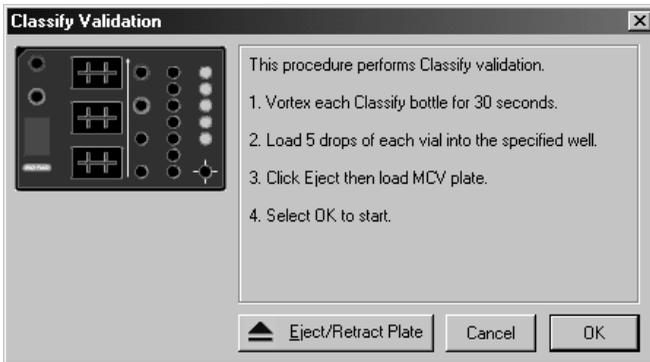

Fig. 10. Classify validation.
3. Enter user name and control number. Select OK, the following dialog box appears (Figure 10).